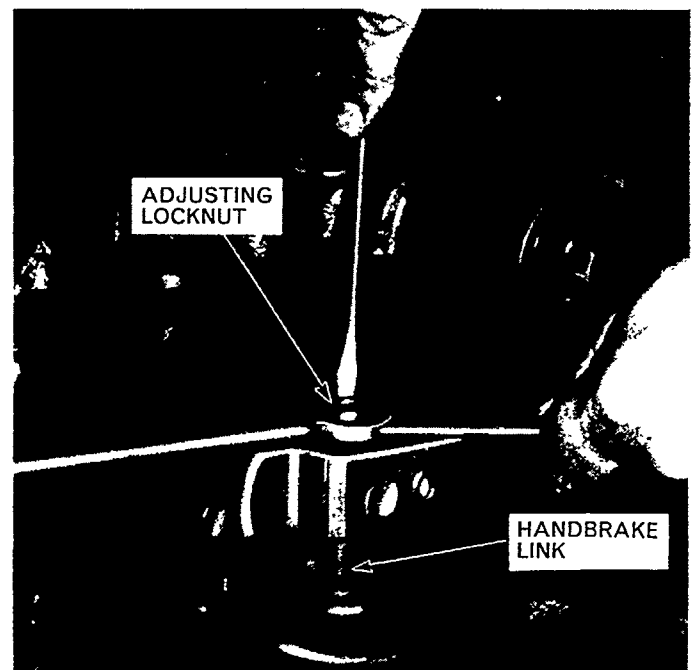

Figure 42
2. Using a screwdriver to prevent the operating rod from turning, Figure 42, rotate the locknut in a clockwise direction until the brake becomes solid.